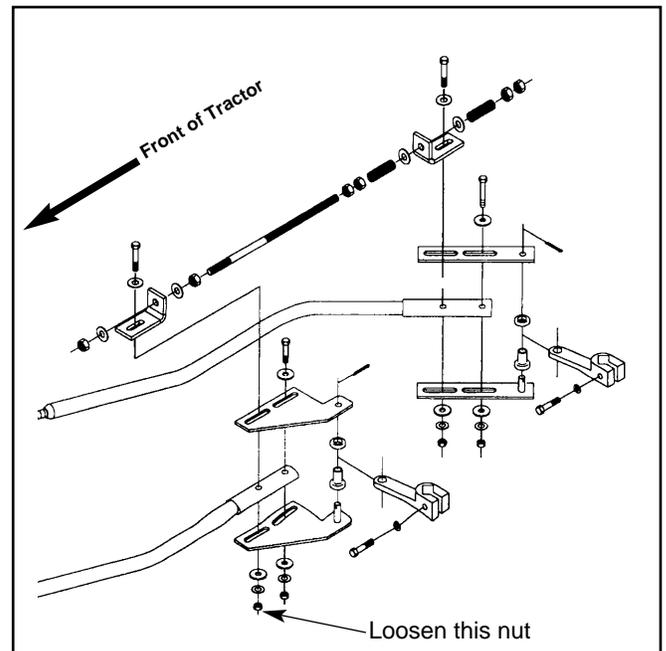

Figure 5-4
**NOTE:** On units with serial numbers after 11374 (last five digits) before making the neutral adjustment, loosen the nut securing the connecting link to the front pump steering linkage. Fig. 5-4. This will be tightened again **after** neutral is adjusted.
**On units with serial numbers after 11374 (last five digits)** if the turnbuckle is adjusted to the maximum (threads bottomed out or extended with more than 1-1/4" exposed when ignoring the jam nut on either side of the turnbuckle), turn the turnbuckle back to the center of its adjustment (3/4" of threads showing when ignoring jam nut). Then check the 3.59" ± .06 dimension shown in Fig. 5-5. Make certain this dimension is correct then loosen the front nut and adjust to approximate neutral. Fig. 5-4 Re-tighten nut and make the final adjustment with the turnbuckle.